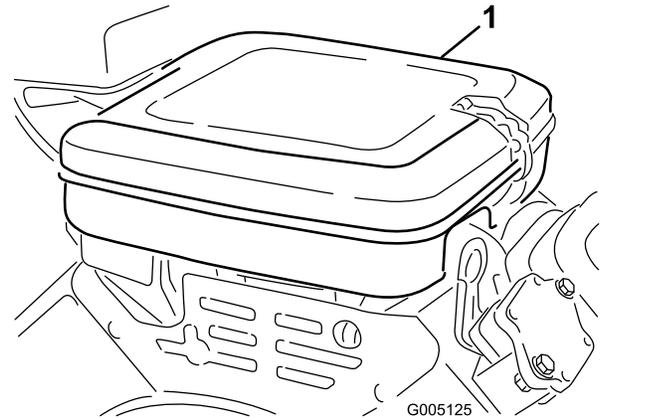

Figure 37
1. Clean the air-cleaner cover (Figure 37).